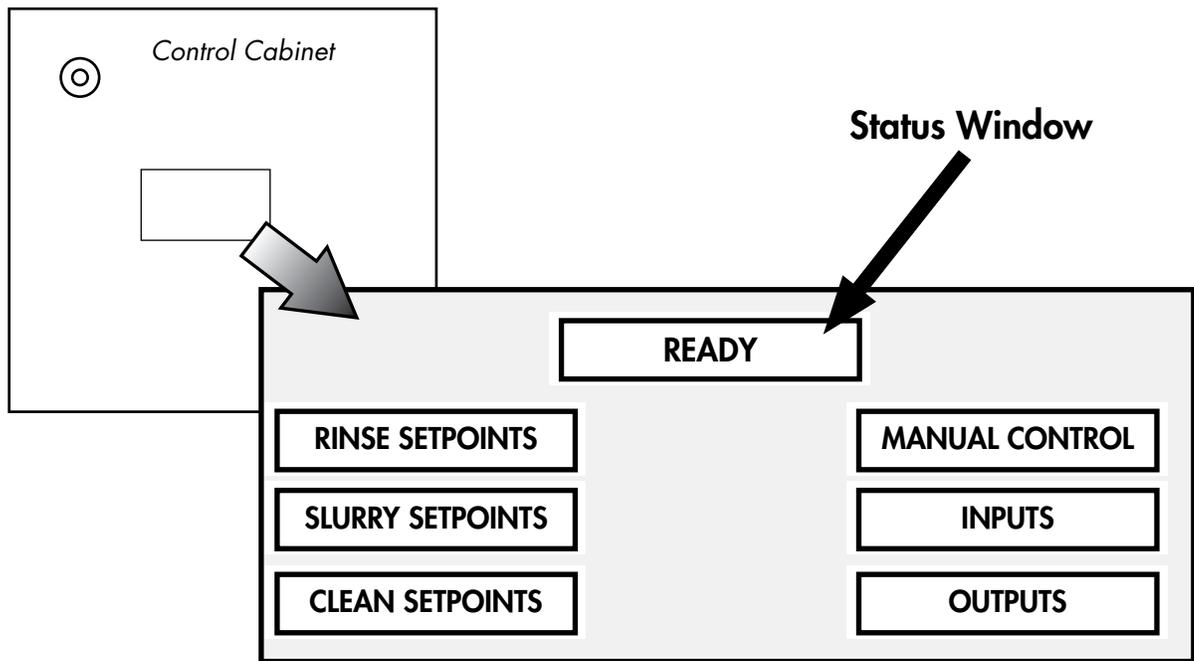

Fig. 8
2. Touching the buttons navigates from one screen to another. The machine status appears in the top window (see "READY" in Fig 8.).